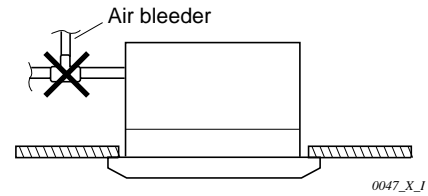

Fig. 3-28
- Do not install an air bleeder as this may cause water to spray from the drain pipe outlet. (Fig. 3-28)